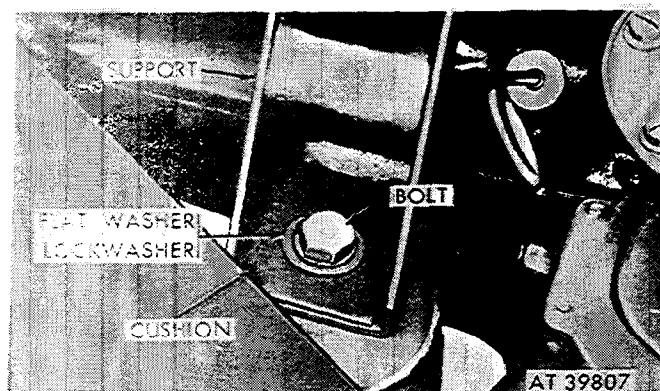

Figure 2-56. Right front bracket mounting bolt and washers.
(5) Remove right front support mounting bolt and washers (fig. 2-56).
(6) Using suitable jack or hoist, raise engine approximately one inch to gain clearance for removal of rubber cushions.
(7) Remove mounting cushions.
*b. Installation.* Complete operations (7) back to (1) and refer to appropriate illustrations as indicated in *a* above.